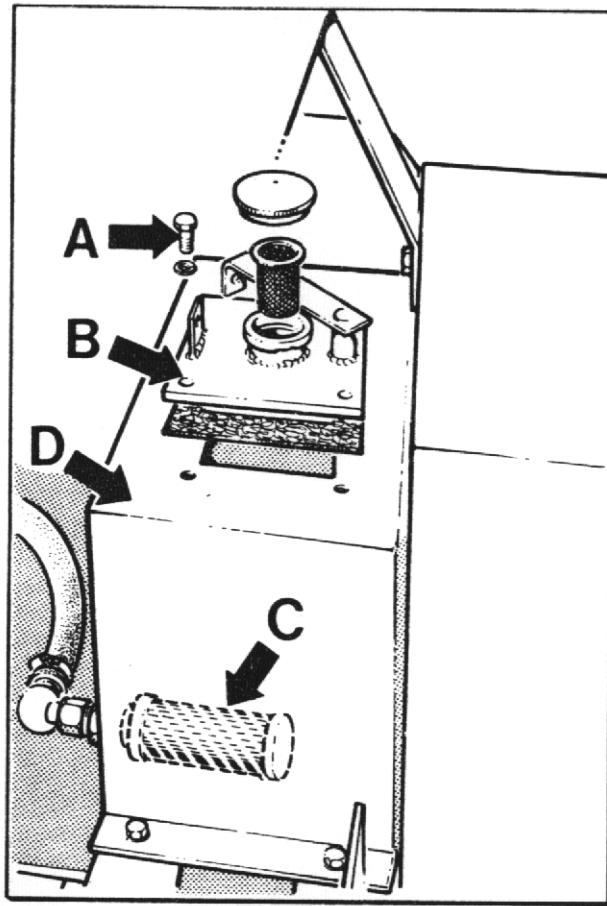

FIG. 6
2. Check that hydraulic filter is not blocked. (See Fig. 6).
- a) Remove the four setscrews (A) that secure the filler cap assembly (B) and remove assembly.
- b) Unscrew suction filter (C) from inside tank (D) and wash in white spirit. Dry with moisture-free compressed air.